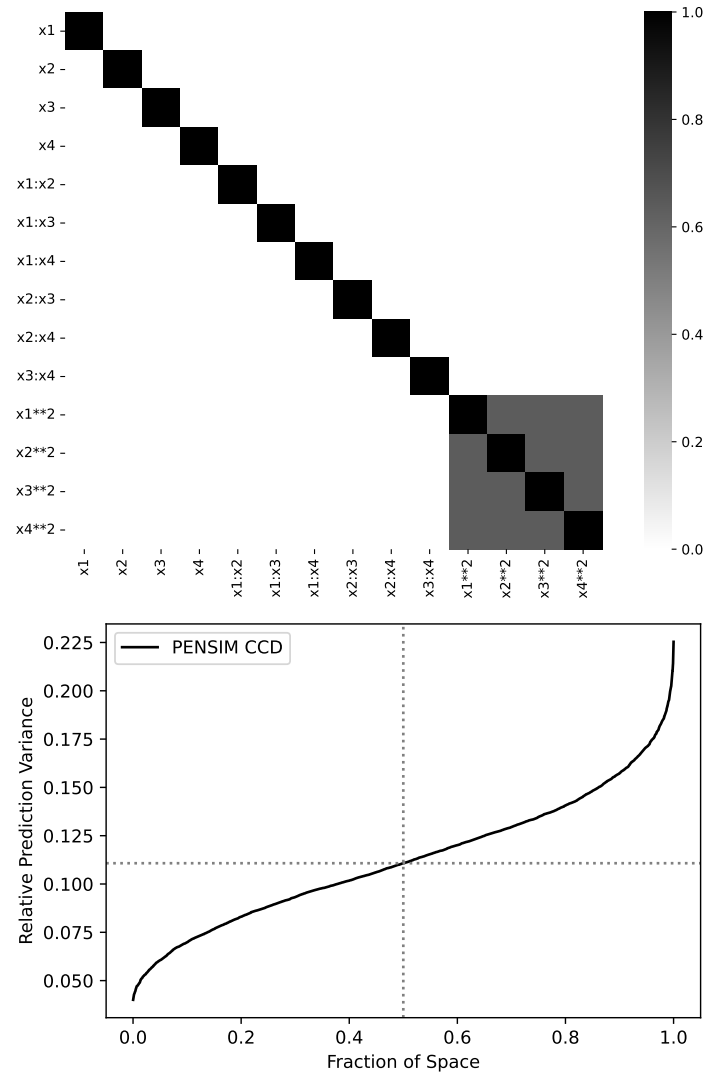

Fig. 8.3: Graphical evaluation of the experimental design setup in dataset **PENSIM\_CDD.csv**
(1) Using the code from Sect. 5.10, we create the correlation plot and the fraction of design space plot shown in Fig. 8.3. The correlation plot shows that the design allows estimating all main effects and two-way interactions.